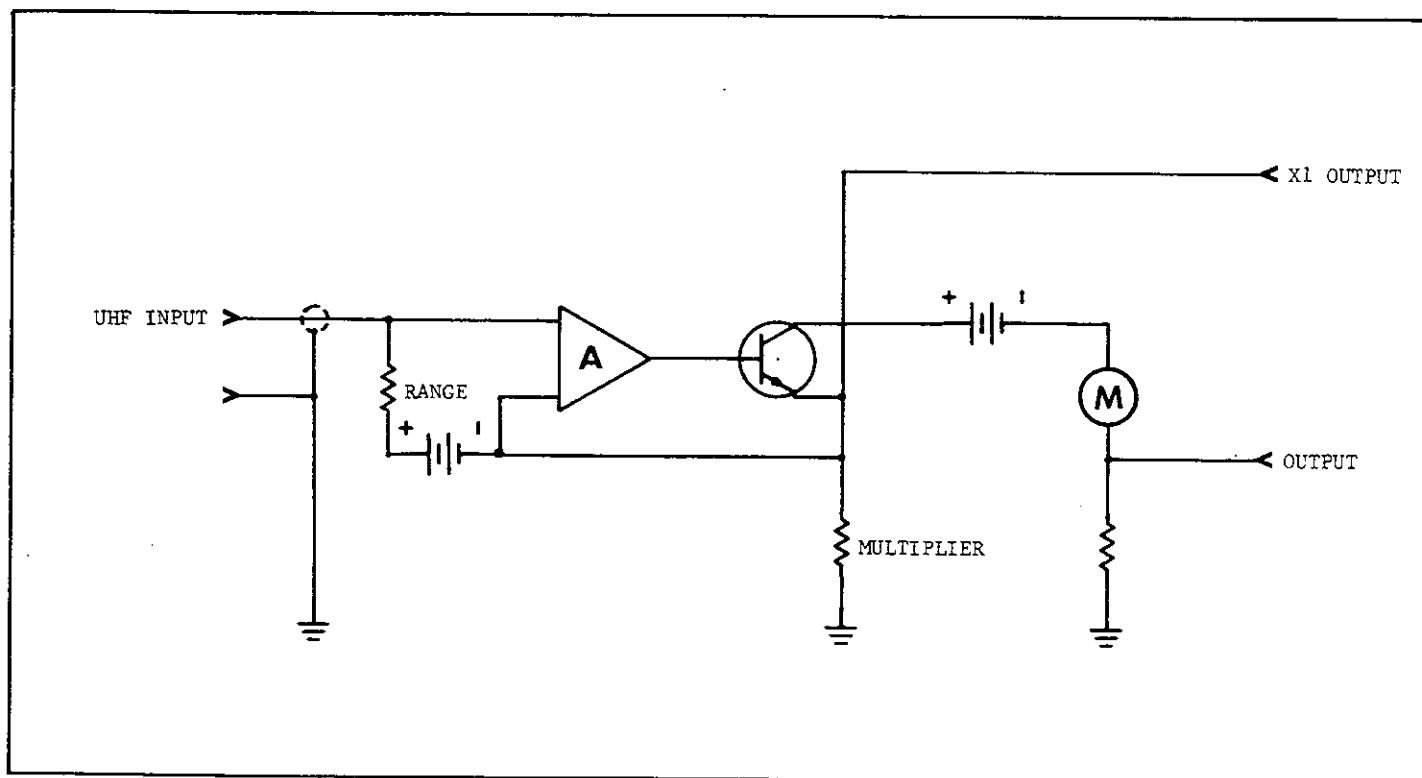

FIGURE 12. Ohmmeter Configuration, NORMAL Mode.
a. Normal Method. In the normal method of resistance measurements (FEEDBACK Switch in NORMAL position), the Model 610C uses a constant-current, voltage-drop circuit. Refer to Figure 12. R_x is the unknown resistor. A voltage source, E, applies a potential across R_x . The source is obtained from the +9 volt supply through the resistor divider network, R136 through R138. E varies from 0.1 to 1.3 volts, depending upon the OHMS range used. The voltage source is connected between floating ground and the input gate of Q101 through R_s , the range resistor. R_s is one of the resistors, R102 through R112. I is equal to E/R_s , regardless of the value of R_x , as long as the voltage drop across R_x does not exceed the Multiplier Switch setting. This circuit provides a true source regardless of the input. The Model 610C can then measure the voltage drop across R_x and indicate the resistance value on its calibrated meter.